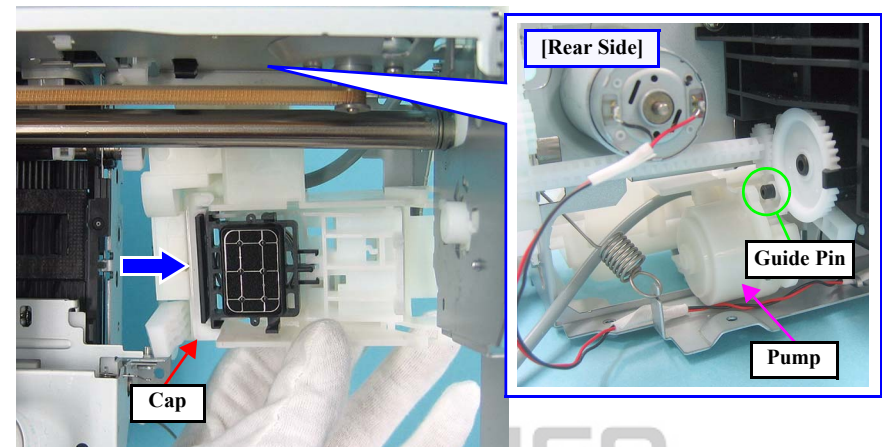

Figure 1-71. Removing the Ink System (2)
- Insert the positioning hole of the Ink System shown in Fig.1-71 over the guide pin of the ASF Unit.